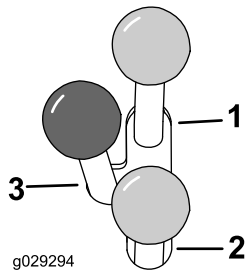

Figure 12
- To operate a hydraulic attachment in the forward direction, move the auxiliary-hydraulics lever forward (Figure 12).
- To operate a hydraulic attachment in the reverse direction, move the auxiliary-hydraulics lever rearward (Figure 12).
Note: If you release the lever while in the FORWARD or REVERSE position, the lever automatically returns to the NEUTRAL position (Figure 12).